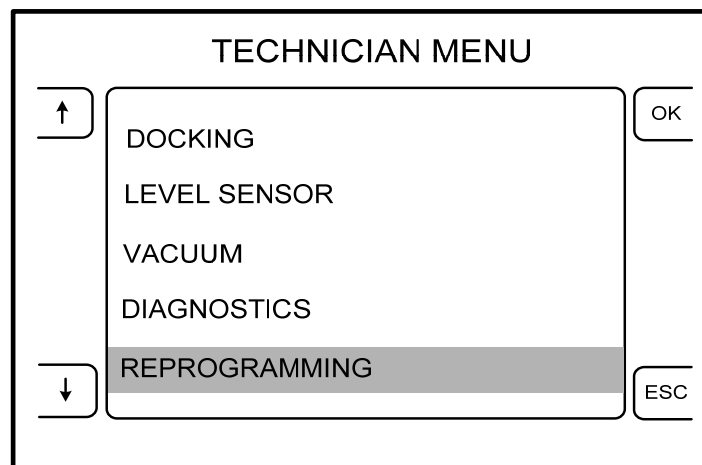

Figure 2: Select the REPROGRAMMING Menu
3. From the technician menu, push the buttons next to the arrow icons (on the left side) to highlight the REPROGRAMMING menu (see figure 2).